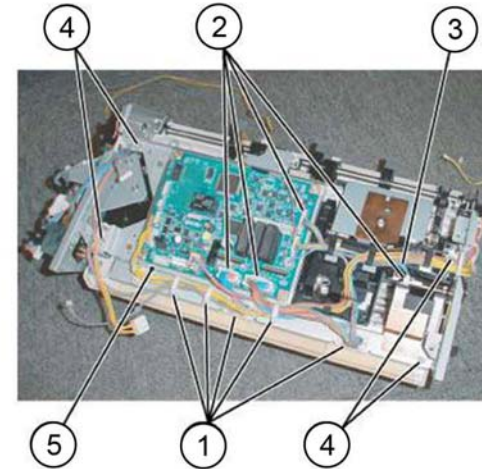

Figure 2 Bottom plate removal
8. Remove the bottom plate, **Figure 2**:
- a. Release the harness from the five clamps (1).
- b. Disconnect 8 connectors (2).
- c. Release the harness from the retainer (3).
- d. Remove four screws (4).
- e. Remove the bottom plate (5).